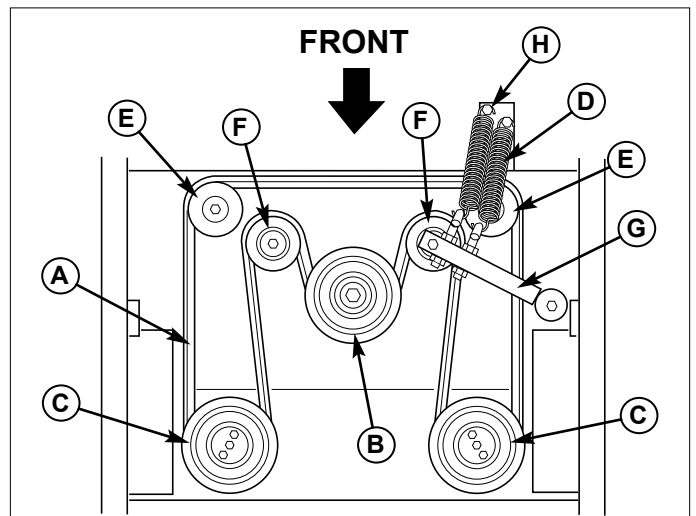

Figure 29. Hydraulic Pump Drive Belt Replacement
3. Remove the nuts fastening the spring anchor bolts (H, Figure 29) to the anchor arm.
4. Remove the old belt and replace it with the new one. Be sure the ribs of the belt are seated correctly in the grooves of the pump pulleys, crankshaft pulley and the ribbed idler pulleys (C, B and E, Figure 29).
5. Reinstall the anchor bolts (H, Figure 29) into the anchor arm and fasten the nuts.